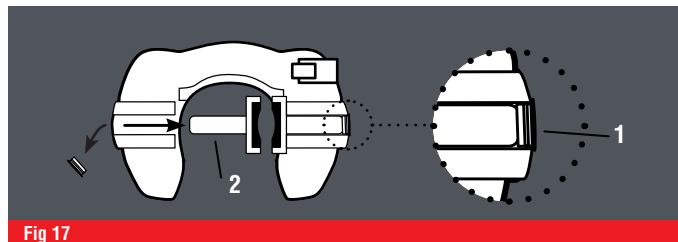

Fig 17
- 2 Areas may only be covered with a thin film of grease (Fig 15 & 16). Remove both friction pads (Fig 17) and lubricate the post only. Lever arm joint should also be lubricated regularly.
Loosen retaining ring (Fig 17/Item 1) with pointed object. Push out friction pad (Fig 17/ Item 2) from outwards to inwards. Only replace one pad at a time. Fit new pad, replace ball race and secure with a new retaining ring. Proceed in the same way on the other side. Remember, if any washers come away with the pad, please replace on the new pad.